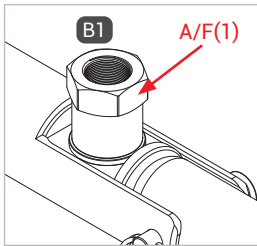

Figure 1
- ▶ When mounting media hose line, hold an open-ended wrench against the wrench size A/F(1) (Figure 1).
- ▶ Screw the 'B1' media inlet pressure-tight to the port for the media line (Figure 1).